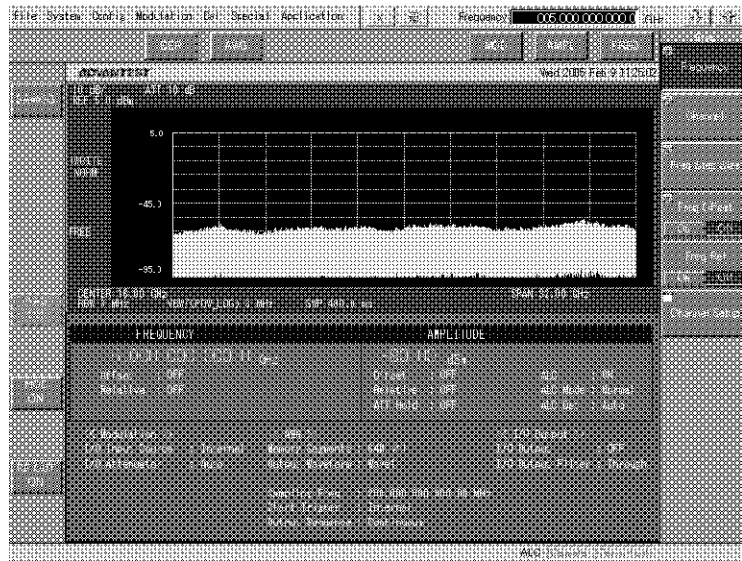

Figure 3-9 SG+AWG Initial Setting Screen
6. Touch the **[Config]** button on the menu bar and select **[SG+AWG Option]** on the drop down menu. The screen shown in Figure 3-9 will be displayed.
Depending on the state of setting when the power supply was turned off last time, the display screen may differ from Figure 3-9.